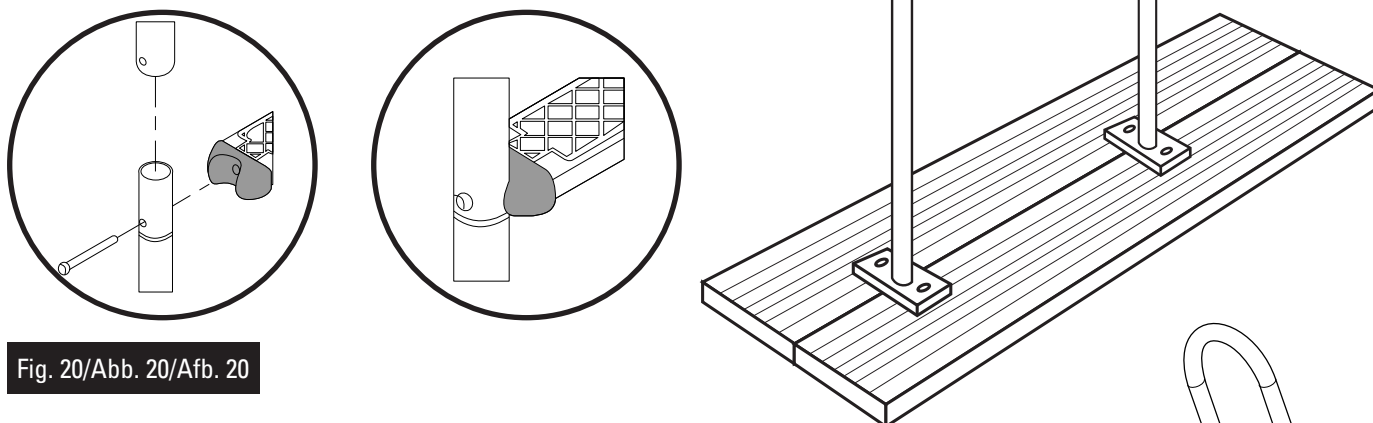
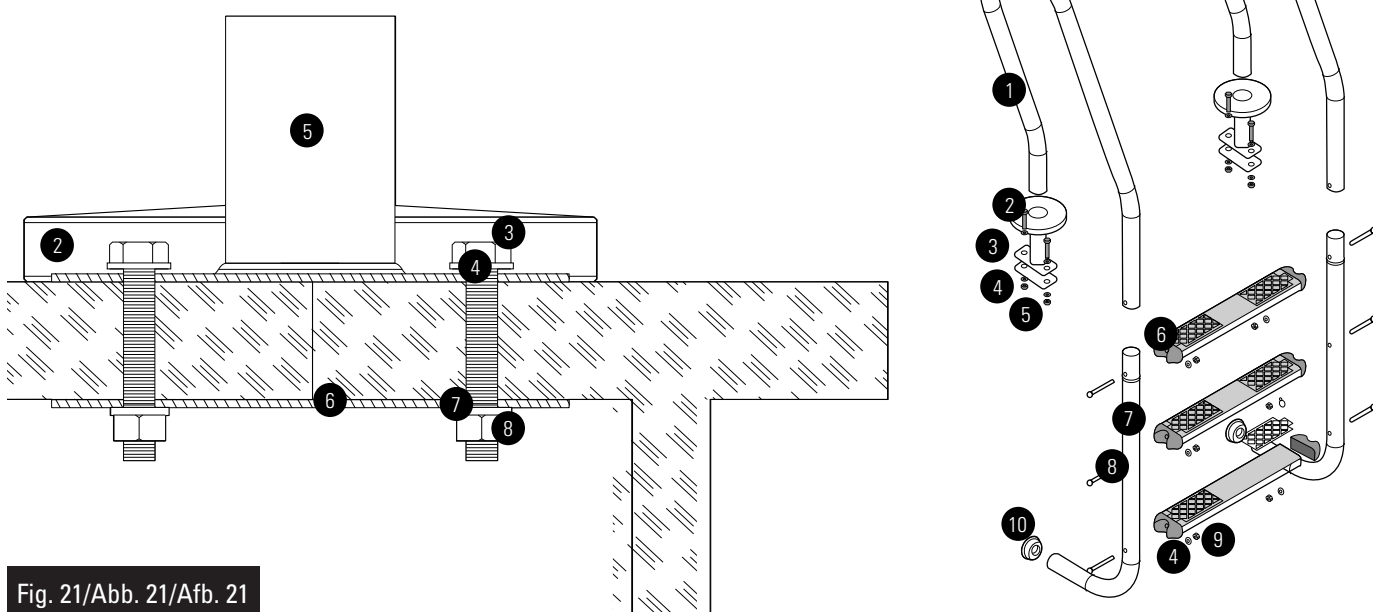

Fig. 20/Abb. 20/Afb. 20
Fig. 21/Abb. 21/Afb. 21
- EN A.- Slot in the upper (1) and lower (10) handrails, fasten them with the steps (9) and the steps to the handrails using screws (11), nuts (8) and washers (7). (Fig.20)
- B.- Assemble the end pieces (12) of the handrail so that the ladder cannot damage the pool.
- D.- Place against flange with the screws (3) and washers (4,7) and nuts (8) and fasten with spanner 12-13. (Fig.21)
- E.- Insert the trim (2).